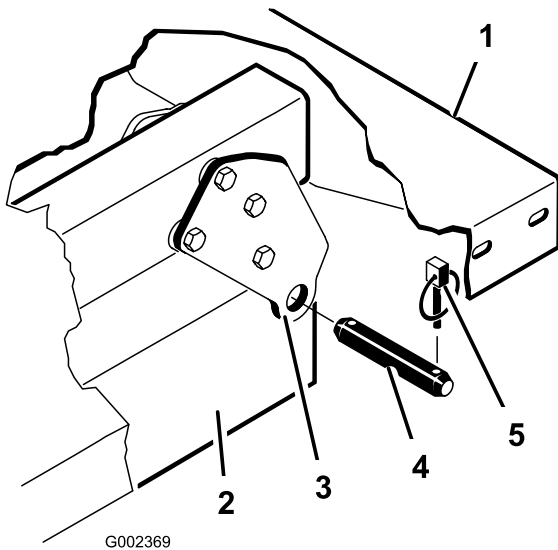

Figure 25
- Remove the lynch pins and clevis pins securing the pivot brackets to the frame channels (Figure 25).
- Carefully set the bed onto the vehicle frame aligning the rear bed pivot plate holes with the holes in the rear frame channel and install 2 clevis pins and lynch pins (Figure 25).